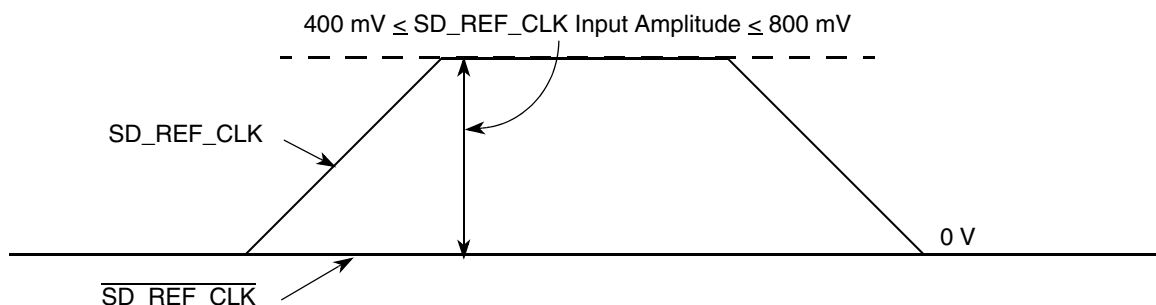

**Figure 42. Single-Ended Reference Clock Input DC Requirements**
- The SD\_REF\_CLK input average voltage must be between 200 and 400 mV. Figure 42 shows the SerDes reference clock input requirement for single-ended signaling mode.